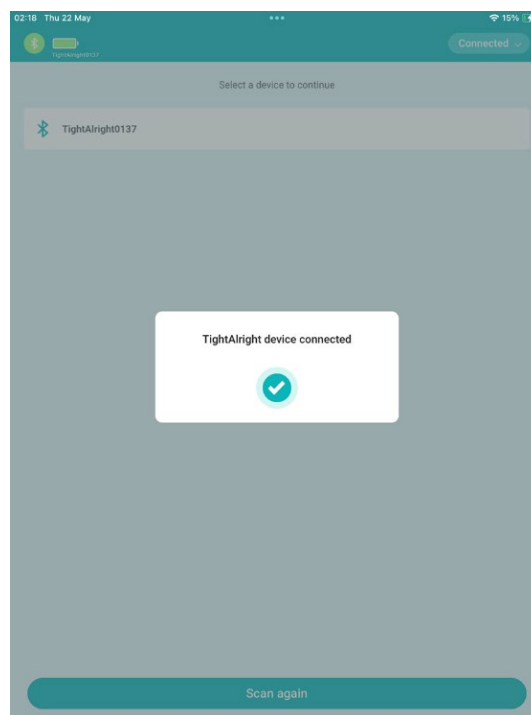

Figure 7. Mobile App screen confirming Bluetooth connection to Transmitter Device.
- Once successfully connected, you will get a message saying **Tight Alright device connected** (see Figure 7).